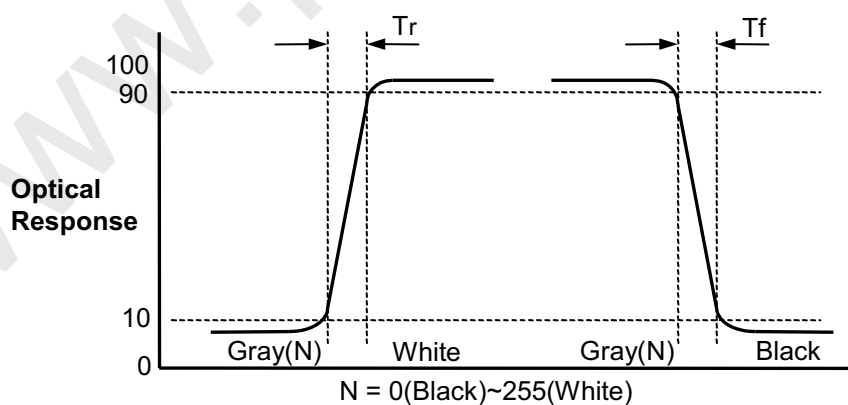

FIG. 3 Response Time
4. Response time is the time required for the display to transit from any gray to white (Rise Time,  $Tr_R$ ) and from any gray to black (Decay time,  $Tr_D$ ). For additional information see the FIG. 3.